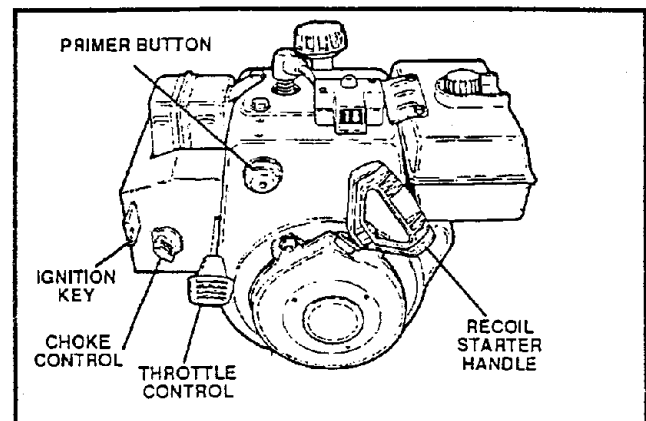

FIG. 3-OP
- To stop the engine, push the throttle control lever to off and pull out the ignition key (See FIG. 3-OP).